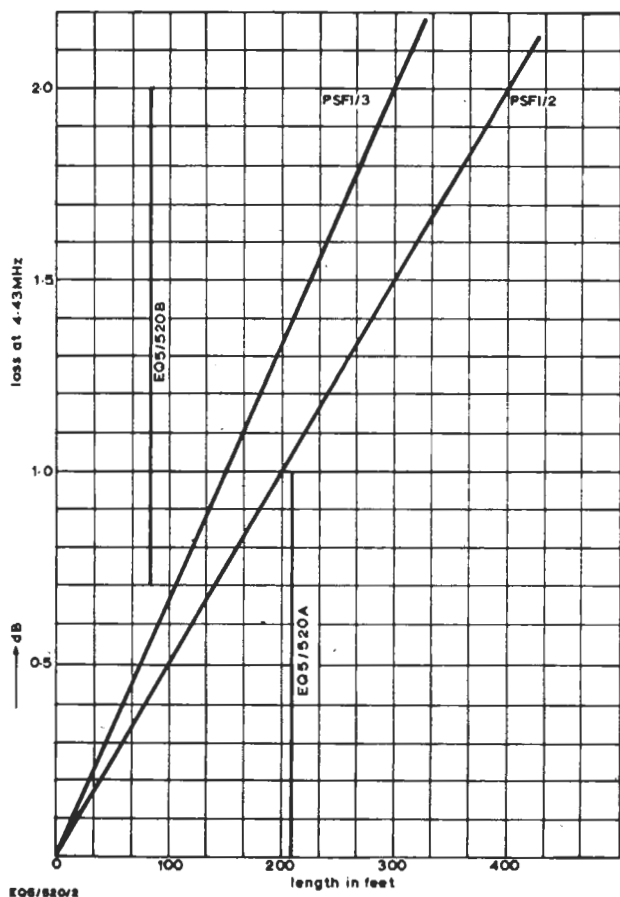

Fig. 2. Co-axial Cable Losses at 4.43 MHz
1. Fig. 2 gives loss figures for co-axial cable at 4.43 MHz and, if the appropriate length of the line to be equalised is known, can be used to determine the version of equaliser required.
3. If the line loss has not been determined by reference to Fig. 2, feed the generator output to line and measure the chrominance/luminance ratio at the terminating end. Refer to Table 1 to convert the figures obtained to dB's loss. For a loss of between 1 and 2 dB use an EQ5/520B, for a loss of between 0.5 dB and 1 dB use an EQ5/520A. If the loss is less than 0.5 dB, use an EQ5/520A with the straps on the inductor board altered so that point 1 is connected to 3, 4 to 6 and 7 to 9.